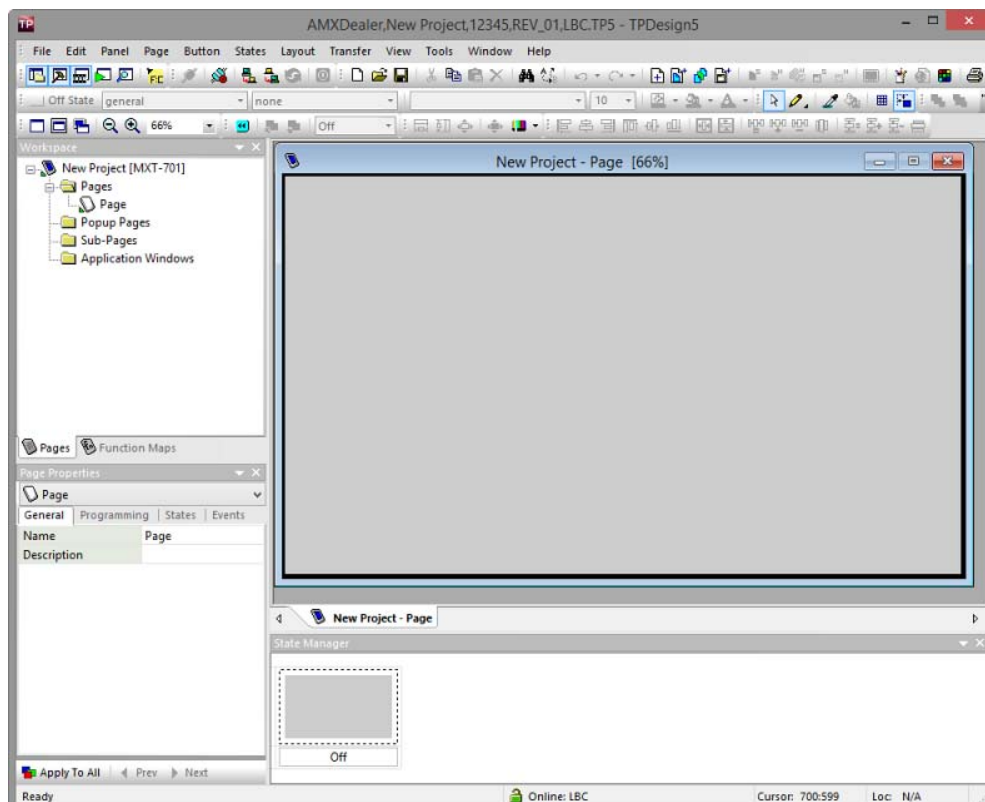

FIG. 3 New Project created
7. Click **Finish** to close the *New Project Wizard*. The new project is opened in the Workspace window (*Pages* tab), and the initial touch panel page is opened in a Design View window (FIG. 3):